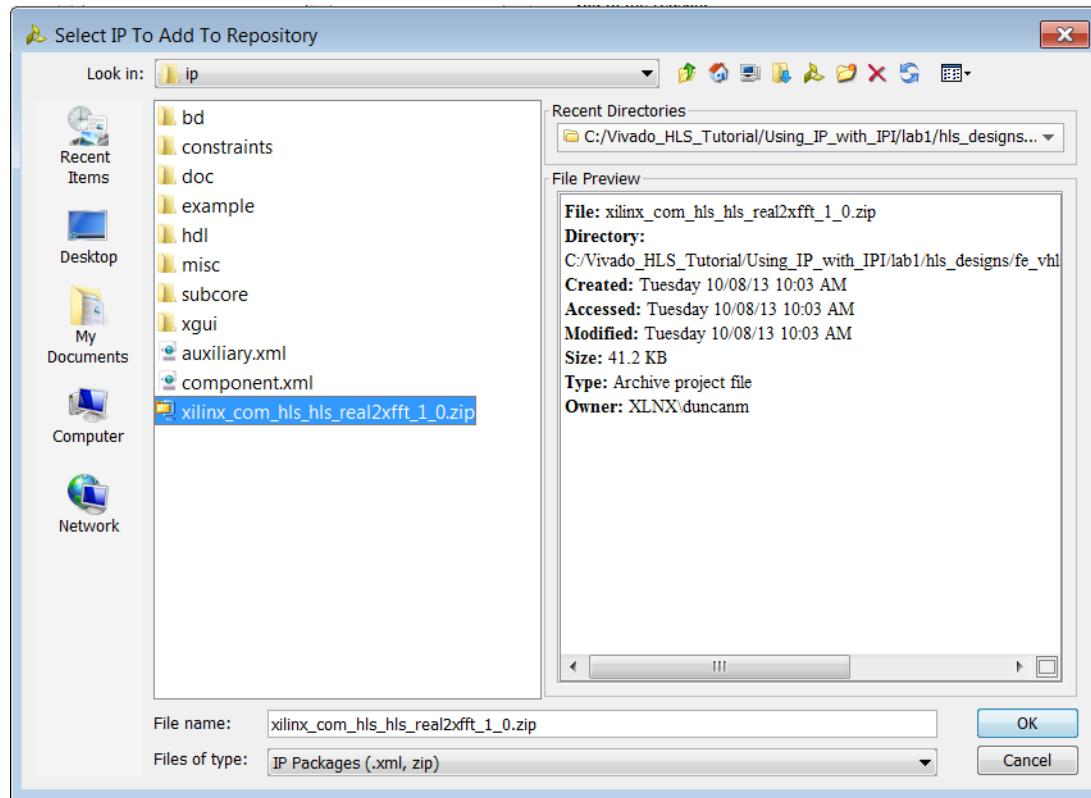

Figure 9-10: Add the HLS IP to the Repository
- c. Select the `xilinx_com_hls_real2xfft_1_0.zip` file (Figure 9-10).